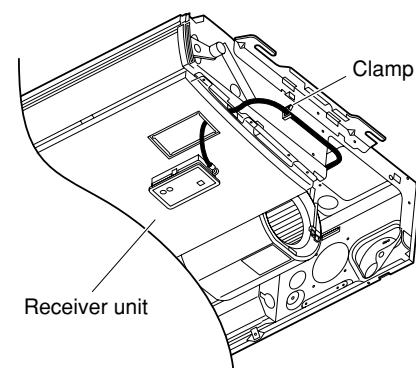

Fig. 11-9
- (4) Fasten the receiver lead wire to the fastener that holds the louver motor wiring. (Fig. 11-9)
- (5) Reattach the side panel.